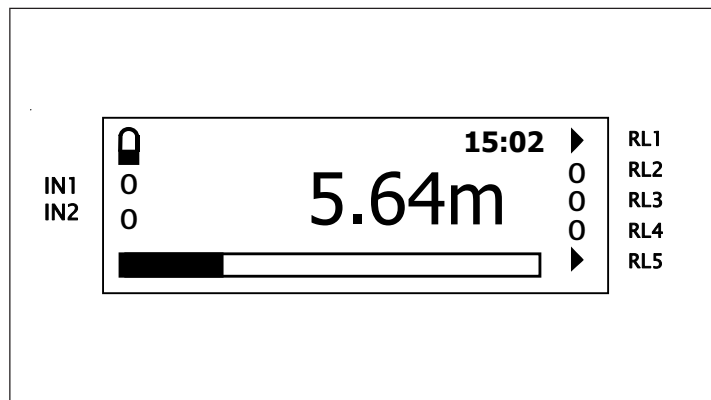

Figure 2 : Typical MCU900 liquid crystal display
Typically the 4 line display is as shown in Figure 2, The top line shows whether the programme lock is open together with the time display. The actual measurement, the MCU900 Primary Variable (PV) is displayed in the centre using double height characters. The lower line shows a bargraph representation of the 4-20mA current output of the control unit, proportional to the PV, 0-100%.
There are 6 buttons on the MCU900 front panel. The four ARROWS allow navigation around the programming menu and the "ESC" and "↵" buttons allow movement from one screen to the next. By pressing "ESC" repeatedly, the screen will always return to the normal display as shown in Fig 2. Movement through the menu structure using the arrows is shown by the titles being "highlighted", ie reversed to show white letters on a dark background. The LCD is backlit for operator convenience. (This can be turned off if required).